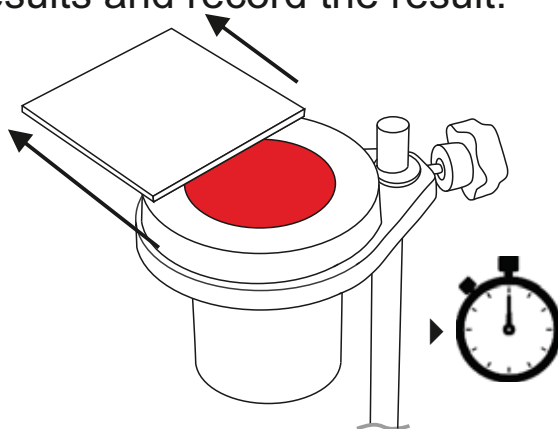

Figure 4
- 7 Remove the glass plate and start the stopwatch^a (Figure 4).